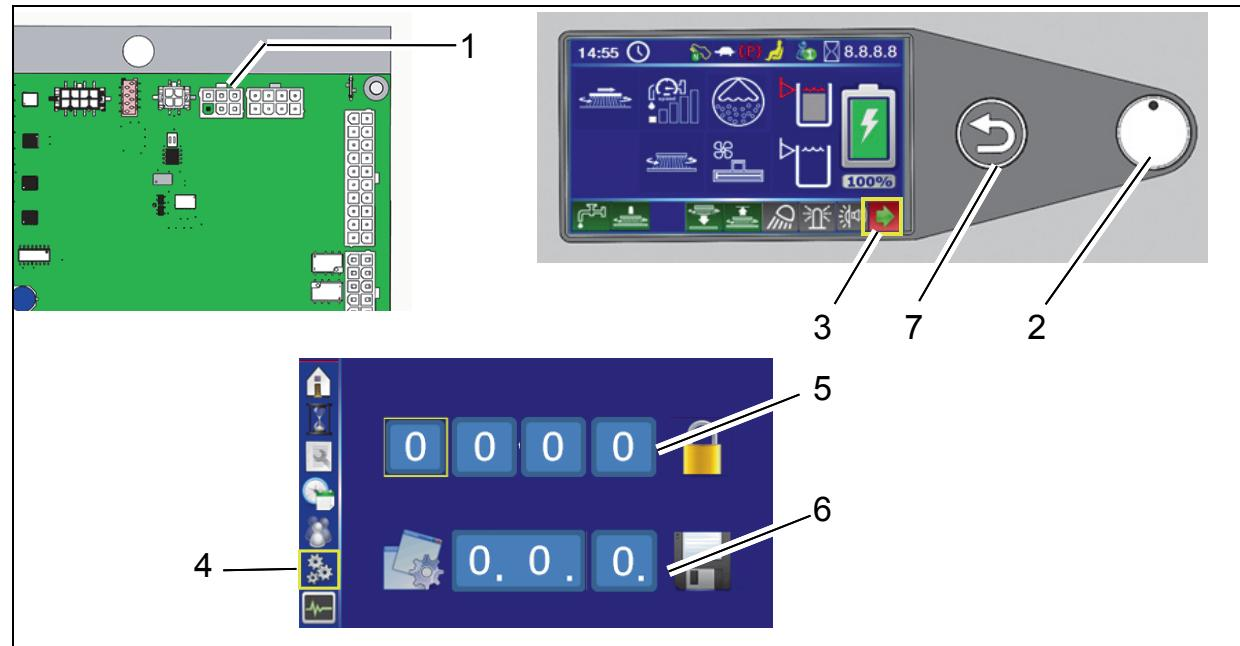

Fig. 5
Plug diagnosis plug into slot X20 of controller A1 (Fig. 5/1).
2. Select the arrow soft key (Fig. 5/3) on the control panel using the turn-push knob (DDS)(Fig. 5/2) and press to access the sub-menu.
3. Select the configuration menu in the sub-menu (Fig. 5/4).
4. Enter the 4-digit code in the configuration menu at the top (Fig. 5/5):
5. In the configuration menu at the bottom (Fig. 5/6), set the value of the option and save by pressing the DDS. After confirming the last digit, OK? appears. Press DDS again to save the value. Saved value is displayed in green.
If the value is not to be saved, exit menu using the return key (Fig. 5/7).